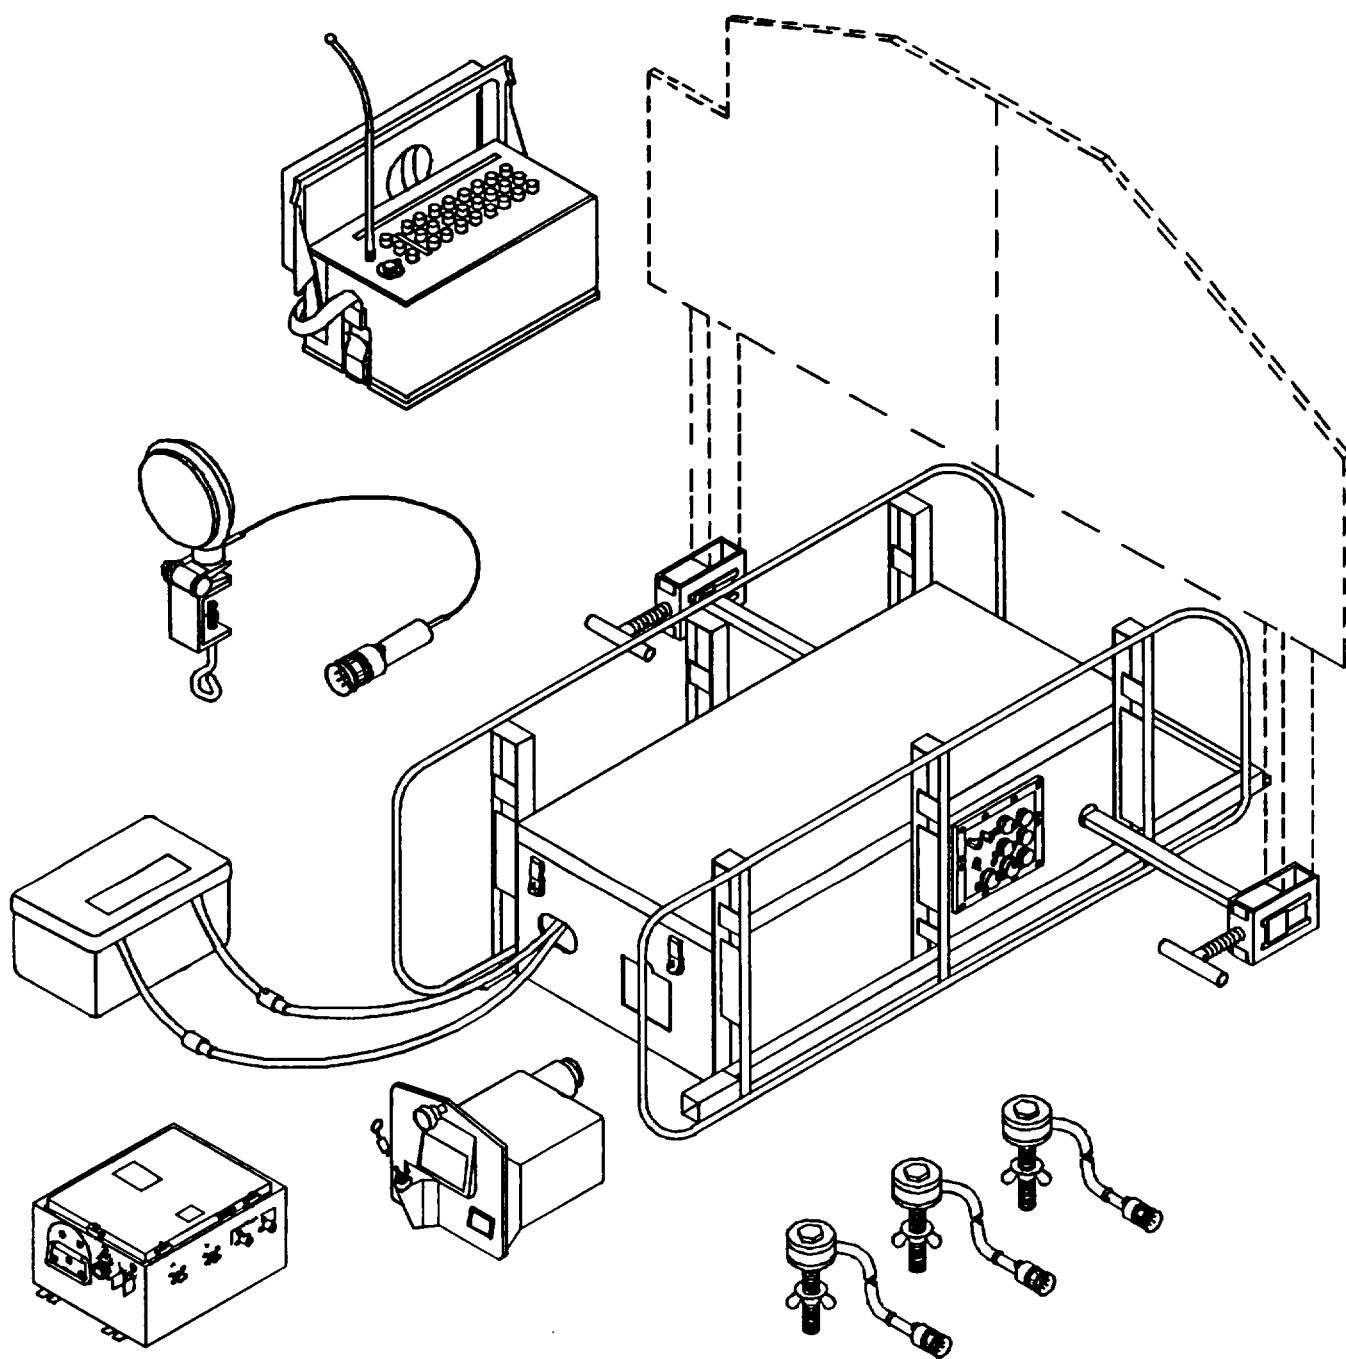

Figure 1-2. Location and Description of Major Components.
a. Portable. The first configuration less battery eliminator assembly (figure 1-2) consists of the THMITG, a receiver, and a transmitter. The receiver interfaces with the transmitter which is used to control the target holding mechanism by remote control. The Armor Target Kill Simulator (ATKS) may be attached to the THM/TG control assembly. The ATKS will detonate a pyrotechnic charge to simulate a target hit or enemy fire.
b. Stationary. The second configuration (less receiver and transmitter) (figure 1-2) is integrated with the Enhanced Remoted Target System Range Control Station (ERETS/RCS). This is accomplished through the Target Interface Unit (TIU) which allows remote control of the THM/TG by the Remoted Target System computer. The Armor Target Kill Simulator (ATKS) may be attached to the THM/TG control assembly or the TIU. The ATKS will detonate a pyrotechnic charge to simulate a target hit or to simulate enemy fire.
The following subparagraphs give a brief description of the major components of the THM/TG. Refer to figure 1-2 for the location.